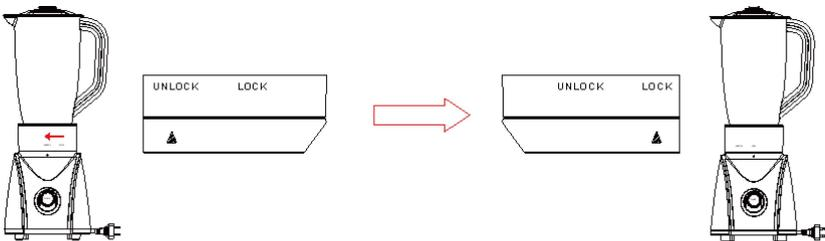

Fig. 1
2. Place the Jar on the **Motor Unit**, let the triangle almost align with the word “**UNLOCK**” on jar base and then turn the jar clockwise until the triangle aligns with the word “**LOCK**”, a click will be heard when locked into position properly. Please see Fig.1.